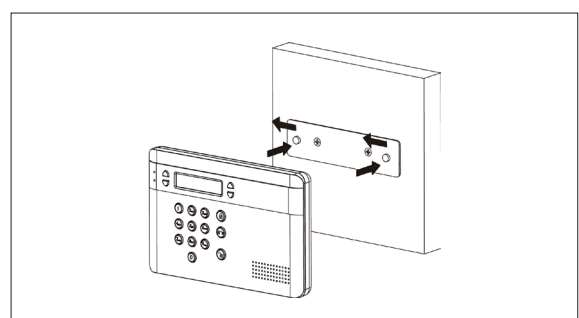

Figure 5
6. Hook the control panel onto the plate, then slide the control panel left to secure the panel and depress the tamper switch against the mounting plate. Figure 5.